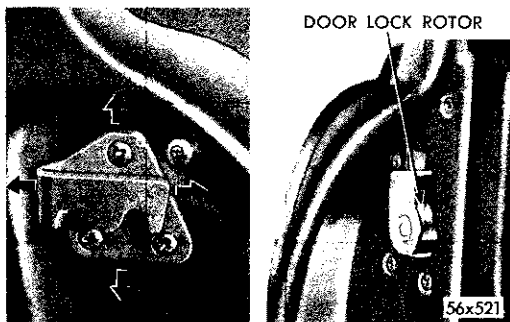

Fig. 16—Striker Plate Adjustment (Typical)
6. FITTING DOORS (Fig. 16)
Make thorough inspection of door before attempting adjustment. A properly fitted door has evenly spaced gaps on all sides. Check engagement of door latch with striker plate. If door raises as latch passes over plate, plate is too high and must be lowered. The striker plate, as shown in Figure 16, can be moved "In" or "Out" and controls the tightness of door against body. The "Up" and "Down" adjustment will determine actual point of engagement between door lock rotor and lower portion of striker